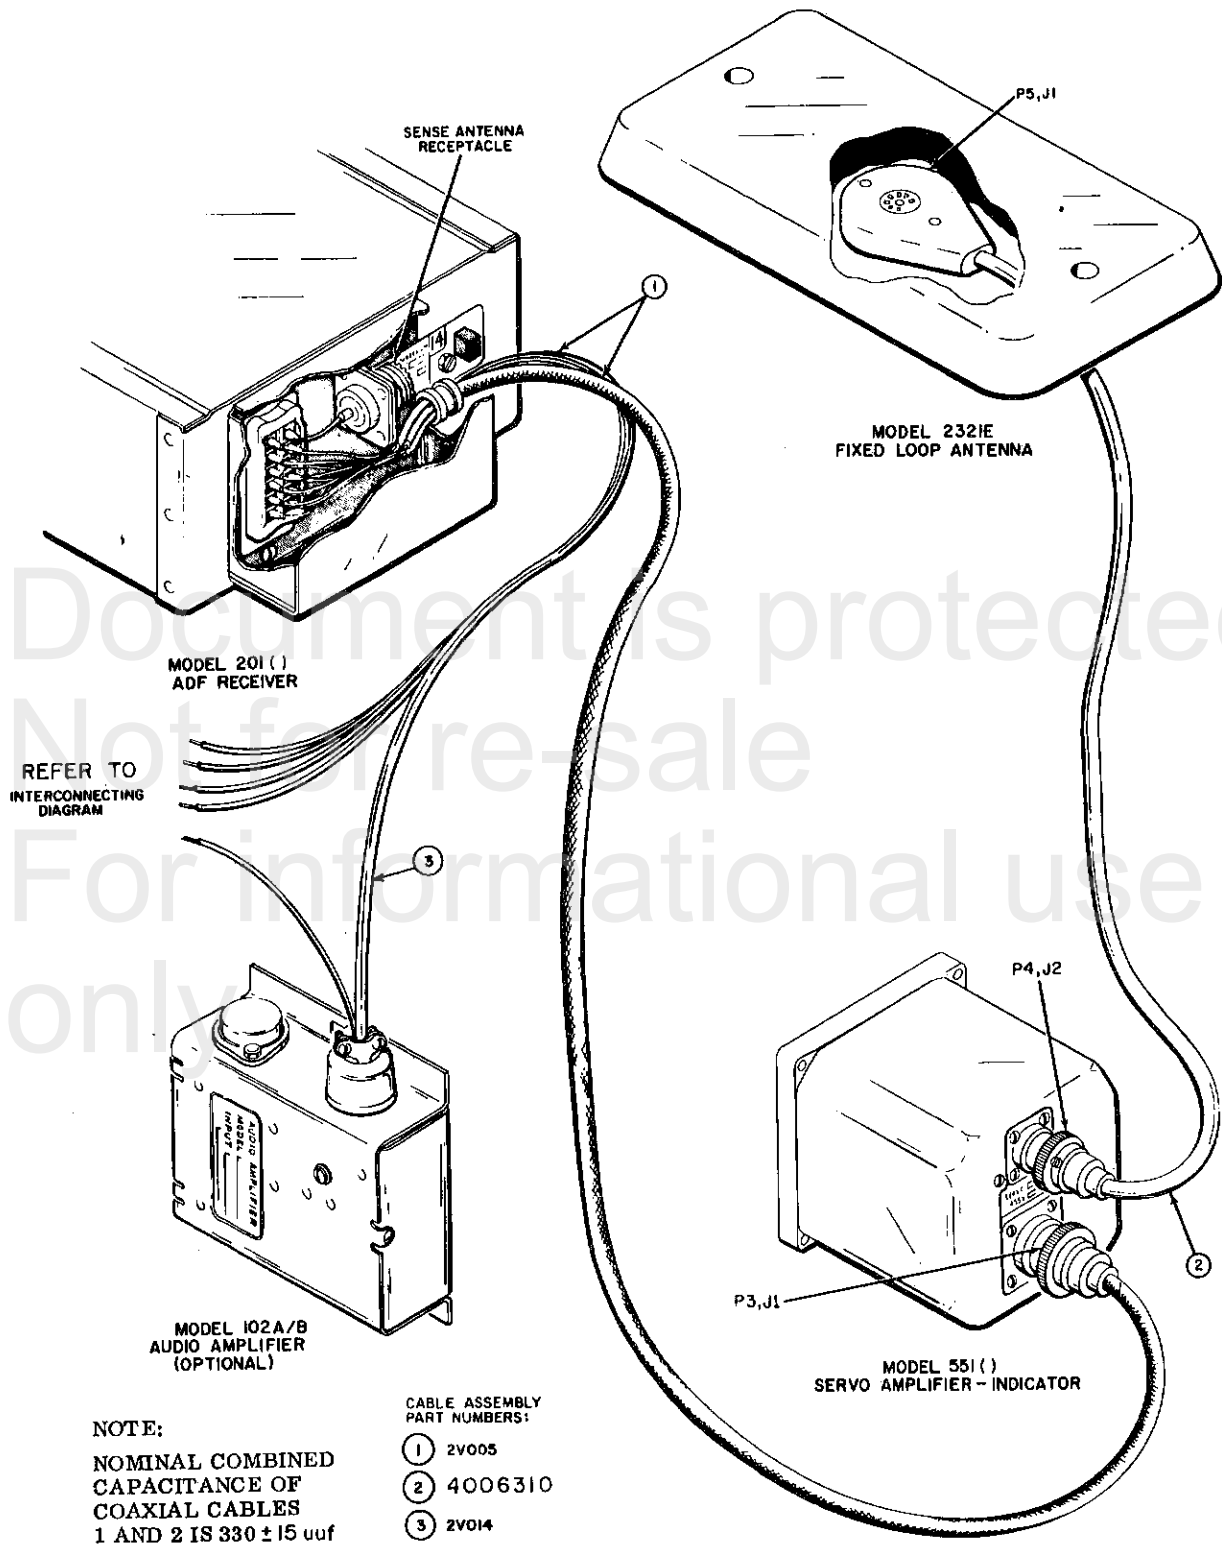

Figure 1. ADF-T-12() System Installation Pictorial Diagram
c. Audio Amplifier. The optional audio (speaker) amplifier is designed to be mounted in any convenient location in the aircraft, such as behind the instrument panel, on a shelf, etc. Figure 1 illustrates the unit connected in the system.
(2) Mount the audio amplifier on the screws by inserting the screw heads through the mounting holes in the flanges.
(3) Slide the unit enough so the screw threads slip in the notches of the mounting holes.
(4) Tighten screws securely.
(5) Wire audio amplifier cable to receiver connector (J1) and connect Amphenol plug to amplifier (see figures 1, 11 and 12).
(6) Mount and connect speaker to shielded lead.